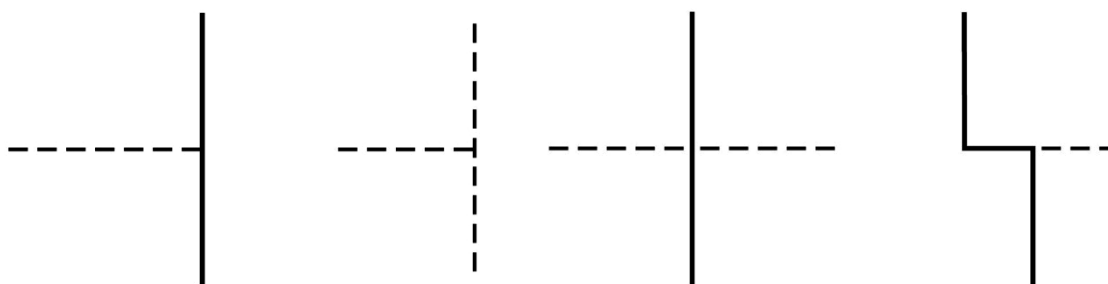

Figure 2.5-1: Drawing hidden lines
- Rule 2. Hidden lines should always begin and end with a dash, except when the hidden line begins or ends at a parallel visible line (see Figure 2.5-1).